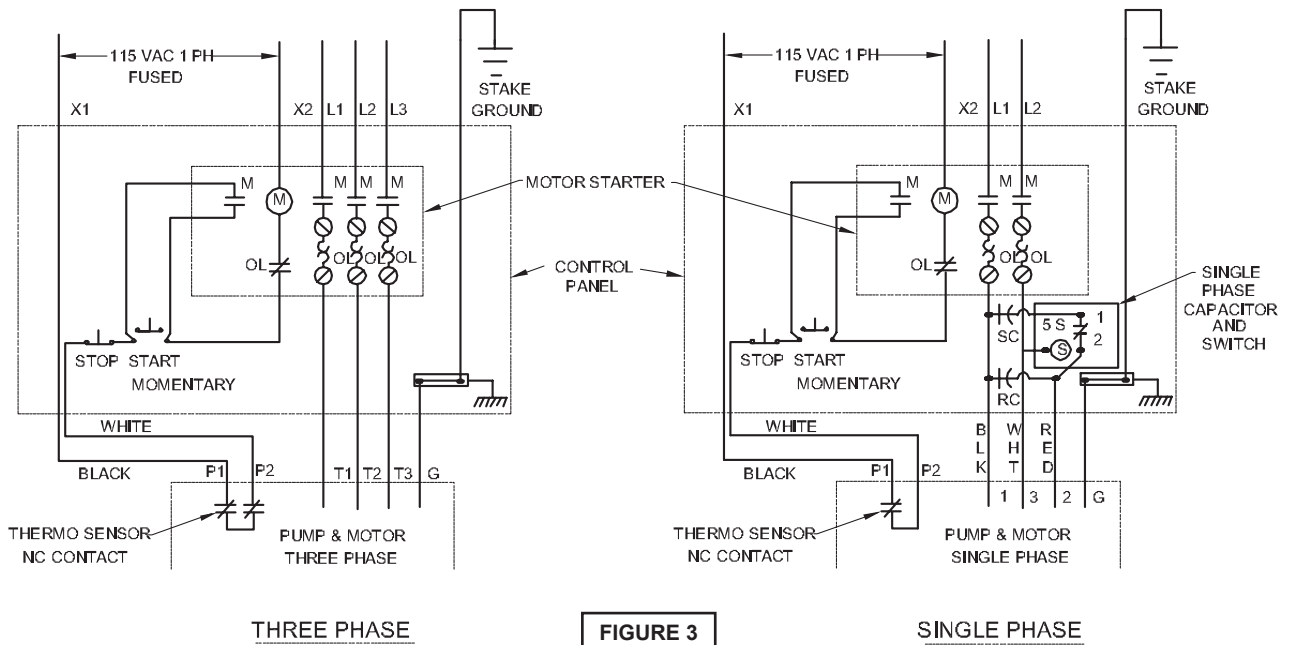

FIGURE 3
A manual momentary start switch is required to prevent the automatic restarting of the motor when the thermostat resets. For a typical wiring diagram, refer to Fig. 3. In the event of an overload, the source of this condition should be determined and rectified before the pump is put back into normal operation.
- b. A temperature sensing circuit (see Fig. 3)
- g. Single phase only, requires a capacitor power pack (see Fig. 3).